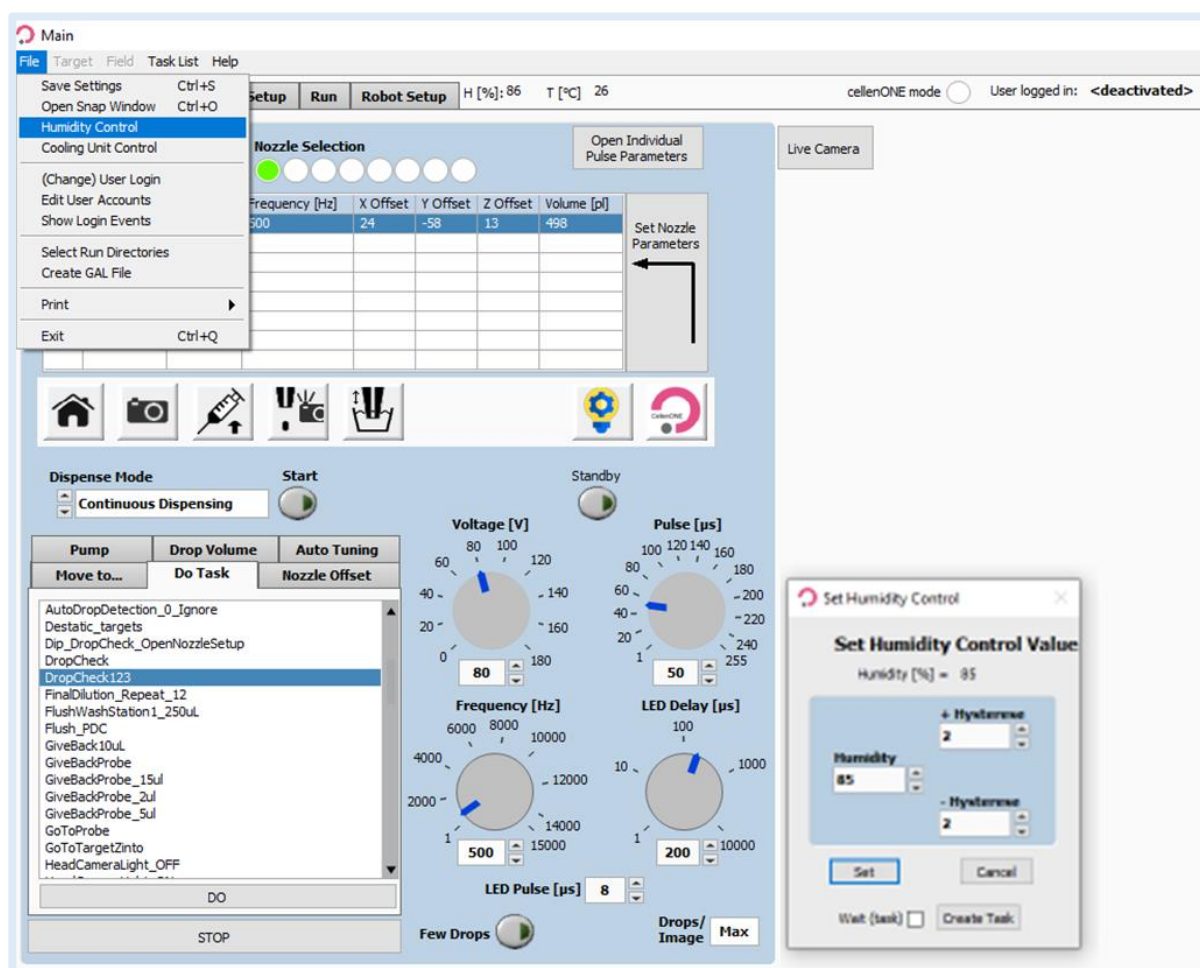

Figure 2: Humidity control
- Humidity setup (Figure 2): Main >> File >> Humidity Control >> Popup window >> Set humidity >> Click on “Set”.